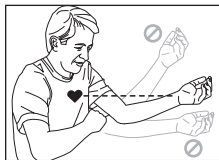

Fig. 1
2. Rest your elbow on a table with your palm and arm facing upward. Elevate your hand so that the wrist is at the same level as your heart, Fig 1. Relax your left hand.